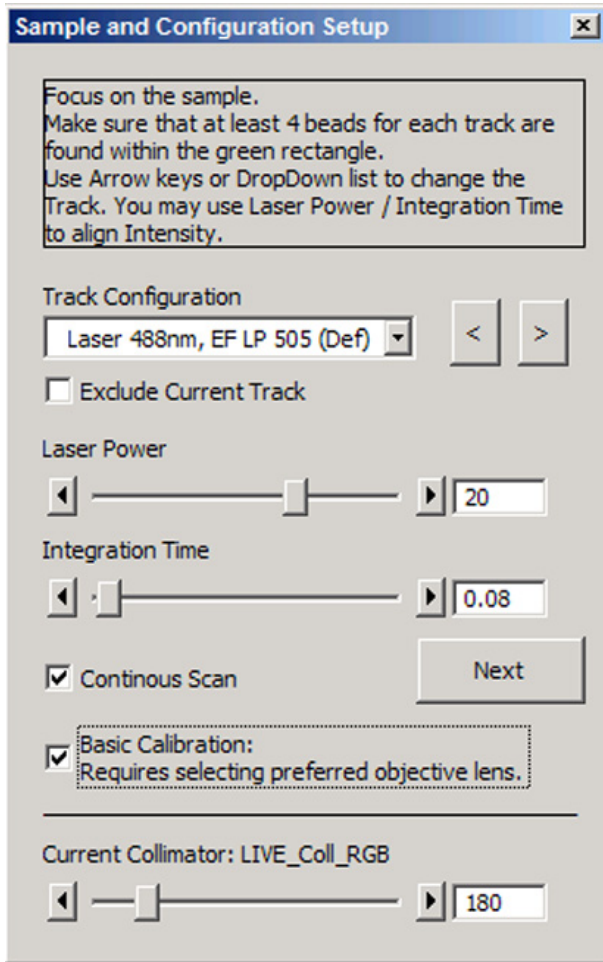

Fig. 5-10 Figure Sample and Configuration Setup Window of the Kollimatic Macro
- In Fig. 5-10, the Basic Calibration has been selected (Check box **Basic Calibration: Requires selecting preferred objective lens.**), therefore some more tracks are available